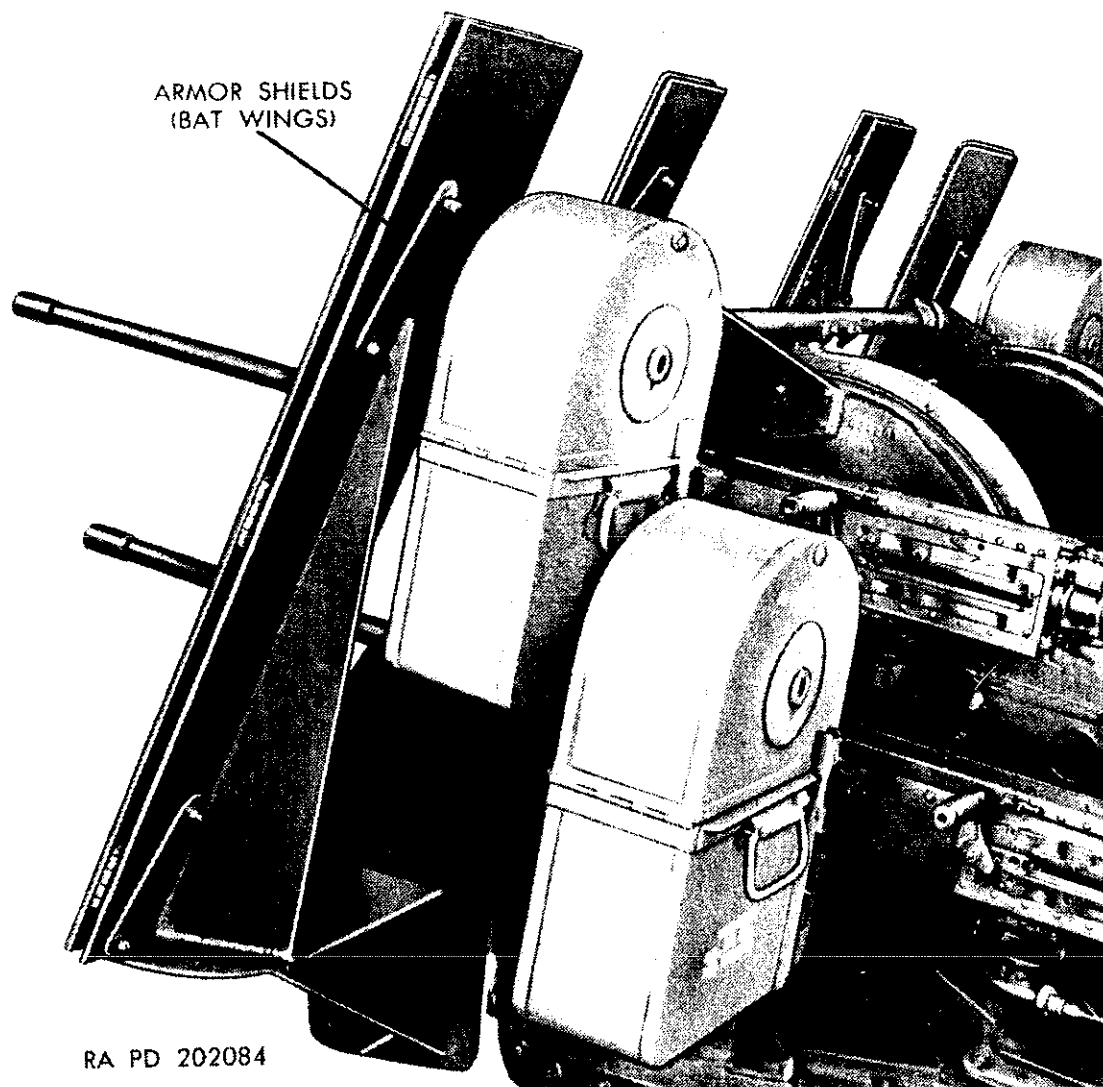

*Figure 29. Armor shields (bat wings) open on mount M45F.*
a. Additional armor shields (bat wings) (fig. 29) have been added on mount M45F. For mounts with additional armor, the bat wing will be folded (fig. 30) during travel and opened during firing. Mount may be operated with wings folded.